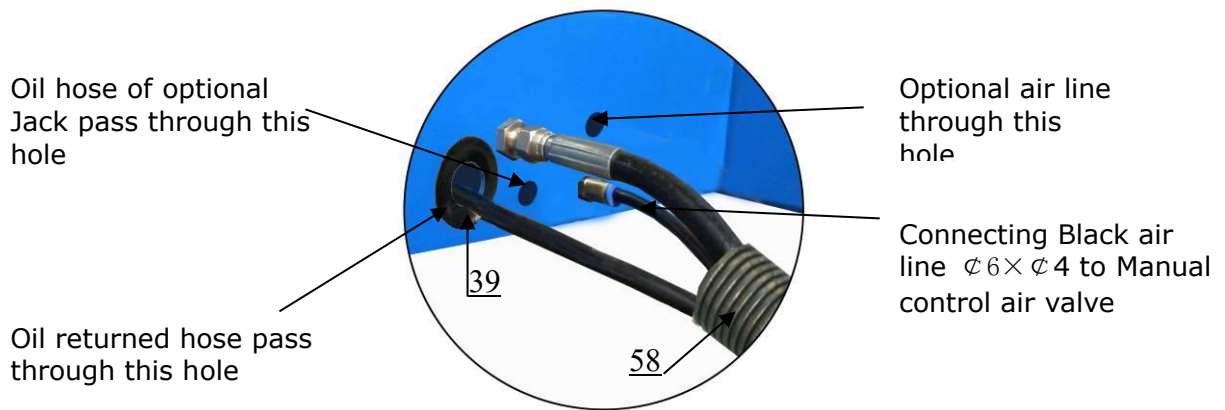

Fig. 28
4. Connecting Oil hose and Air lines (See Fig. 28).